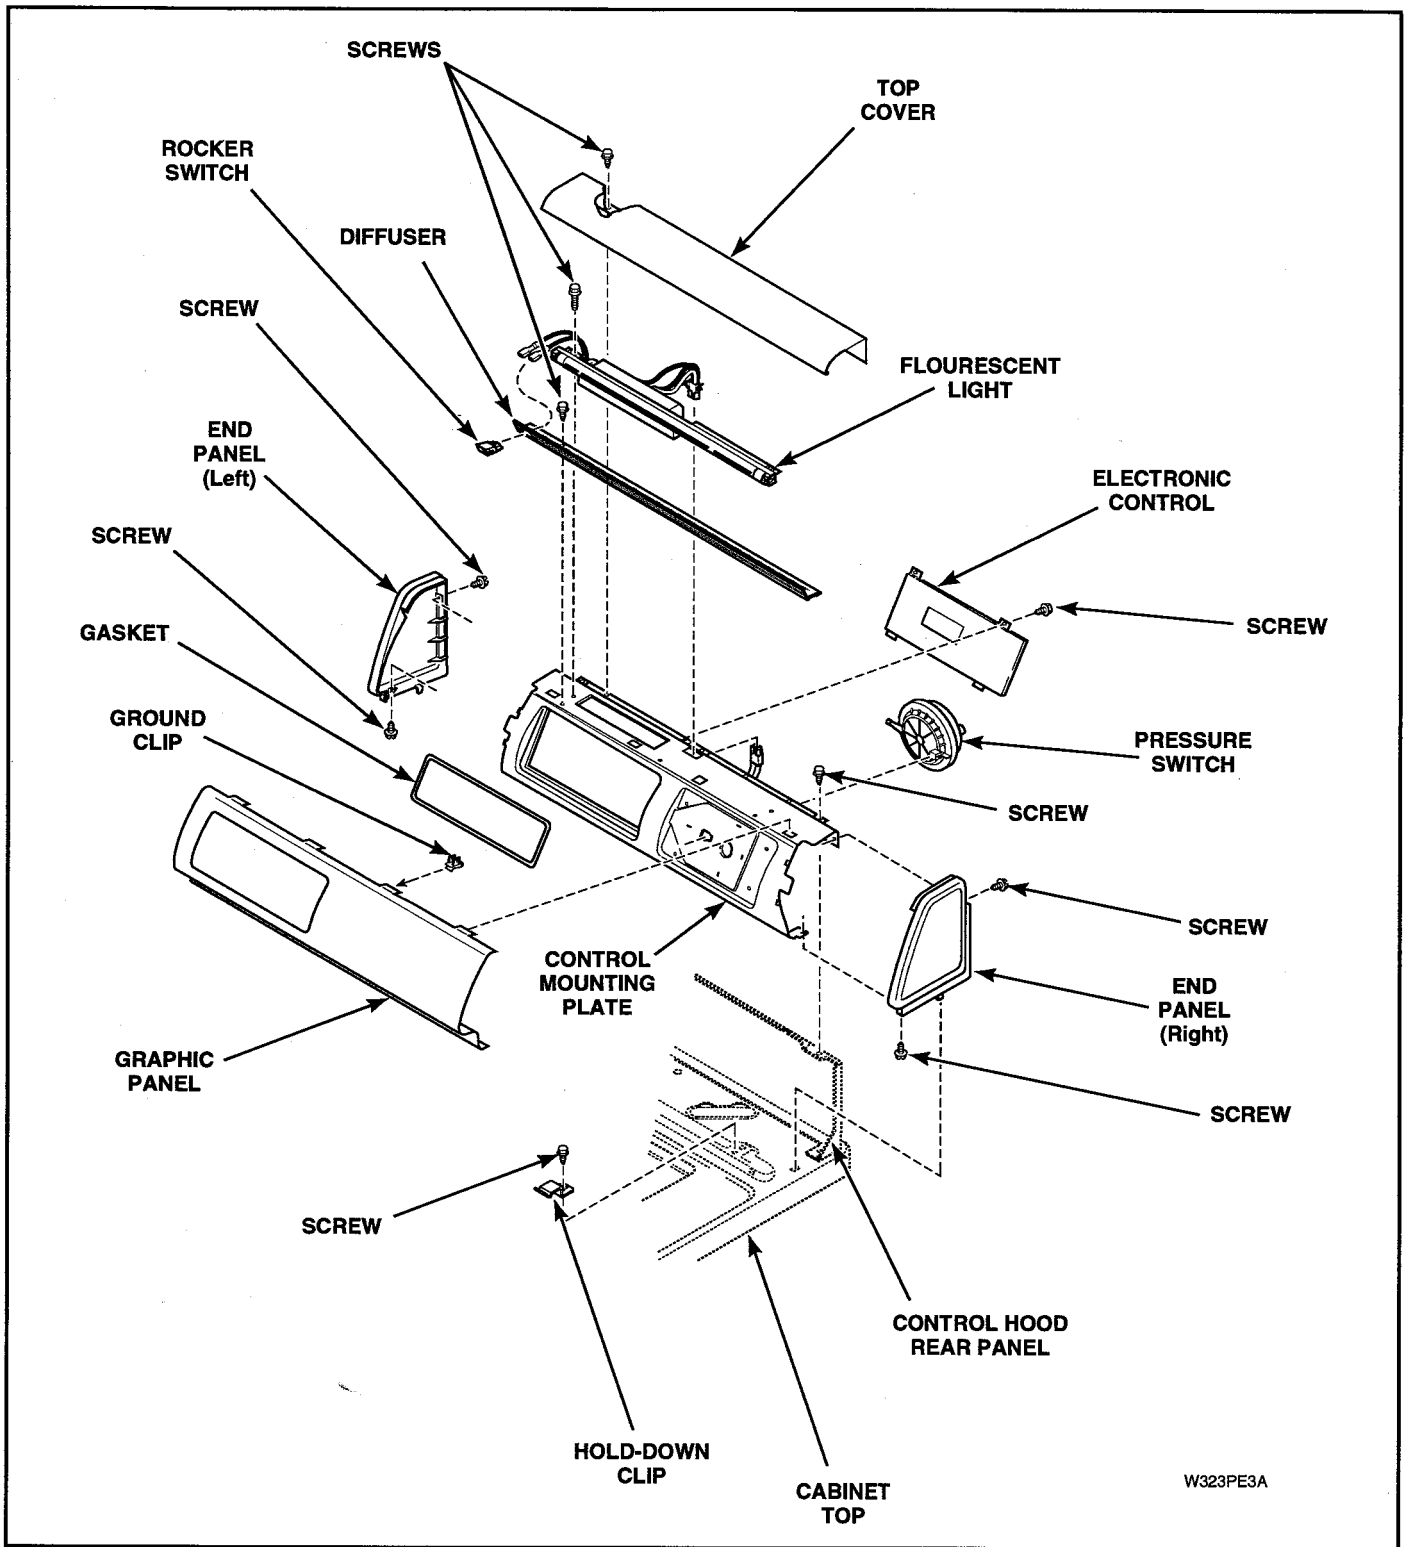

Figure 5-6
- Remove screws holding electronic control to backside of control mounting plate and remove control. See Figure 5-6.